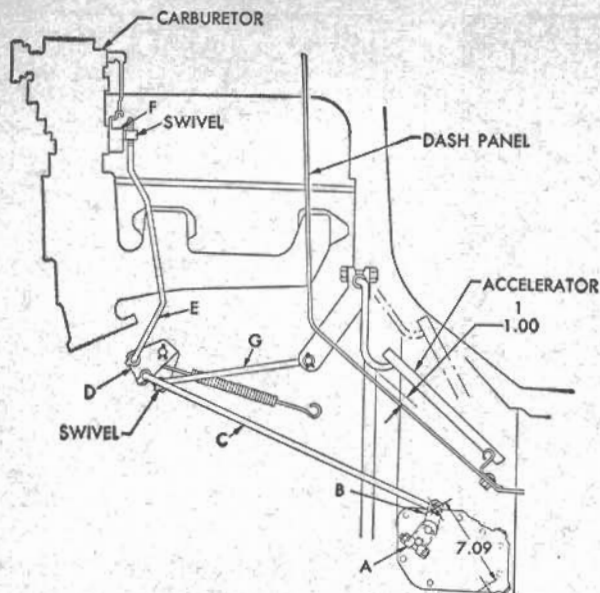

Fig. 21 Adjusting 6-cylinder throttle linkage. 1956-57 Powerglide
3. Disconnect rod C from lever B, Fig. 21.